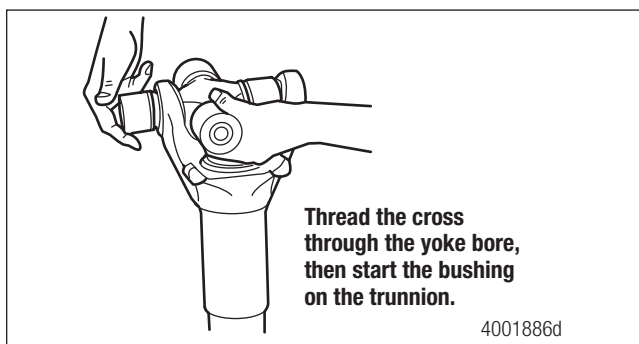

Figure 9.15
2. Position the first bushing onto the trunnion by threading the cross trunnion through the yoke bore. Figure 9.15.